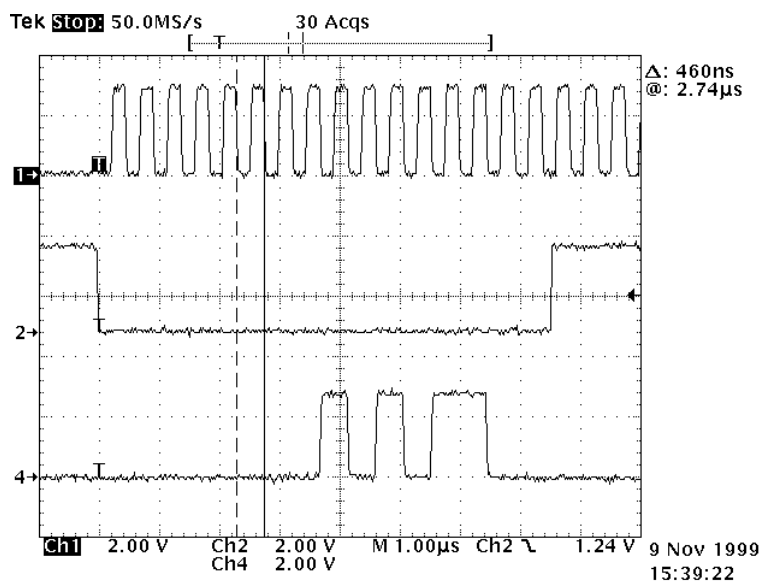
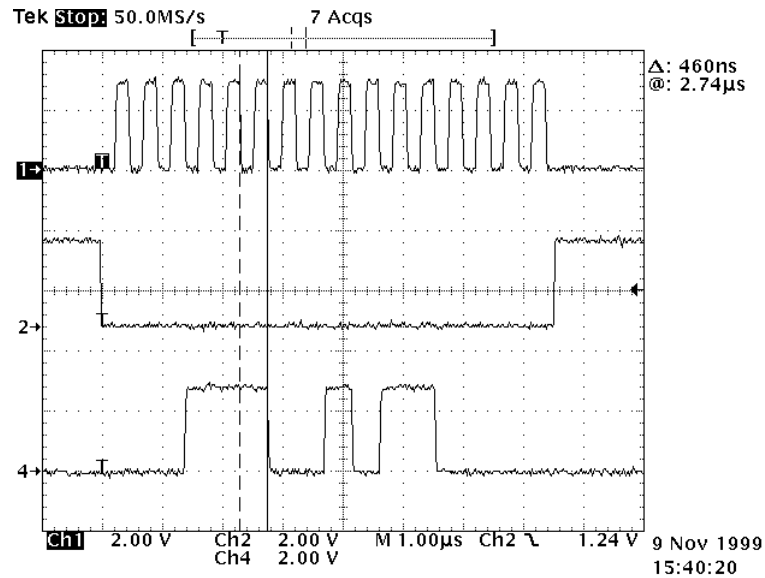

Figure 34.
Figure 35.
1. Measure all the three lines simultaneously (Figure 34).
You should see the two cases, Figure 34 and Figure 35 .